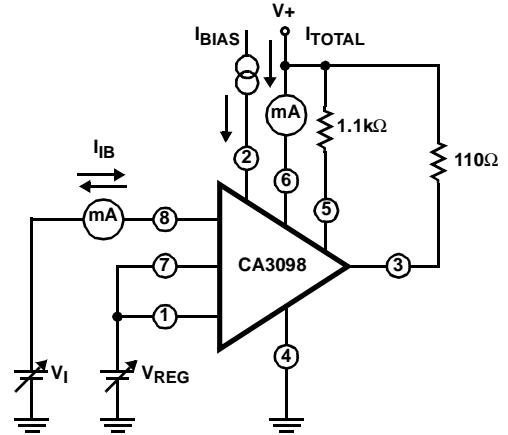

FIGURE 3. TOTAL SUPPLY CURRENT, AND INPUT BIAS CURRENT TEST CIRCUIT
- For definition of  $V_{REG}$  see Figure 3.
- Continuous (DC) output current must be limited to  $\leq 40\text{mA}$ . For 100mA output current, the duty cycle must be  $\leq 40\%$ .
NOTE: See Figure 3 for definition of  $V_{REG}$